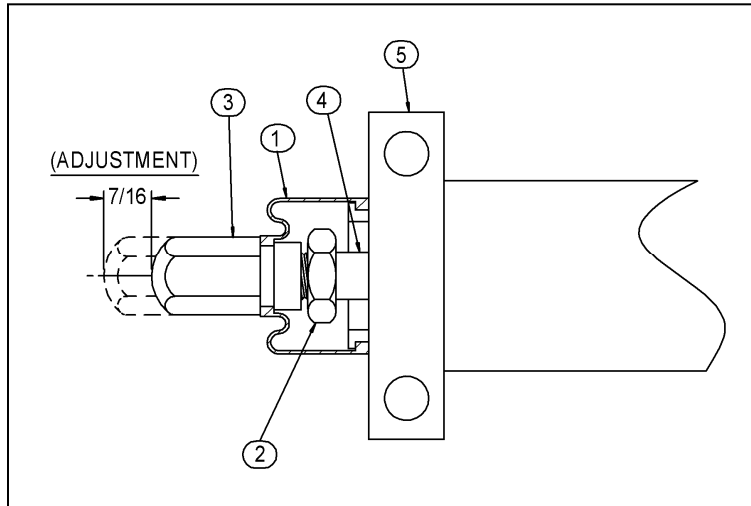

Figure 11: Loosen Lock Nut
1. Before trying to adjust a Limit Valve, use the Shafer Hand Pump to position the actuator so that the pin on the Protective Cover is away from the paddle (see Figure 11).
2. Remove the Protective Boot (Item 1) from the ESD valve (see Figure 11).
3. Loosen the Lock Nut (Item 2) and back the nut away from the nubbin shaped Adjusting Cap (Item 3). (See Figure 11)